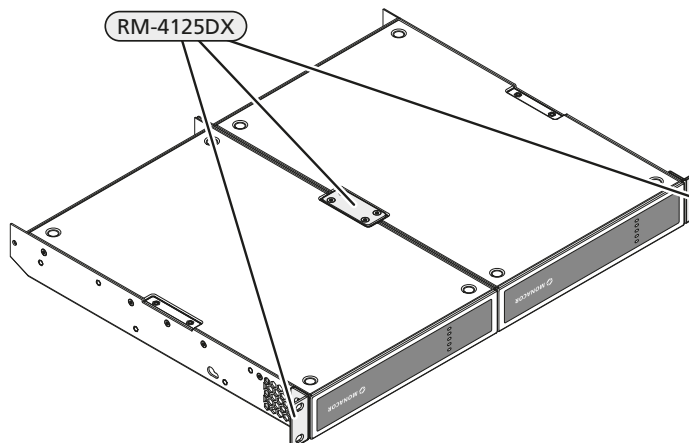

Fig. 7 Connecting plate and rack mounting brackets
- 5) Fasten the connecting plate and the rack mounting brackets (fig. 7).
At the start of the user interface, the view Dashboard will always appear (fig. 7). It provides an overview of the status of the device and of the settings made for the zones.